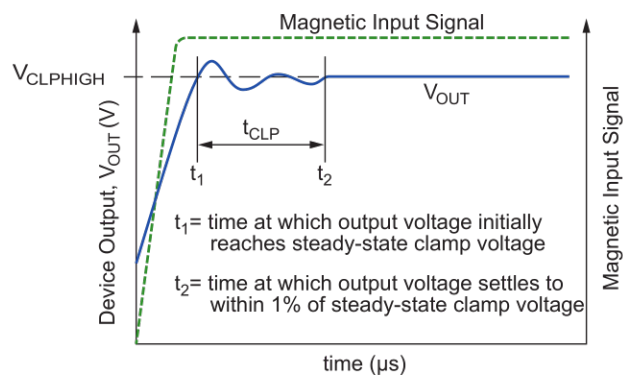

Figure 2: Definition of Delay to Clamp,  $t_{CLP}$
**Delay to Clamp.** A large magnetic input step may cause the clamp to overshoot its steady-state value. The Delay to Clamp,  $t_{CLP}$ , is defined as the time it takes for the output voltage to settle within 1% of its steady-state value, after initially passing through its steady-state voltage, as shown in Figure 2.